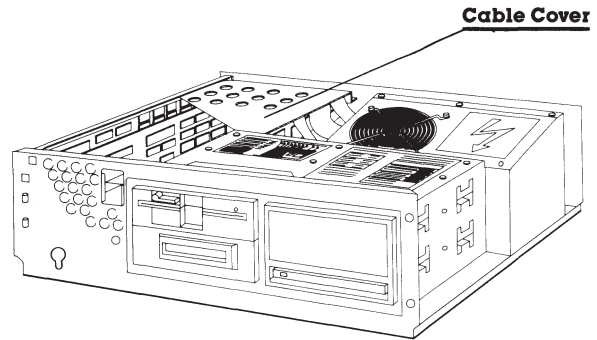

Figure 7-21. Location of the Cable Cover.
4. Remove the cable cover (Figure 7-21).